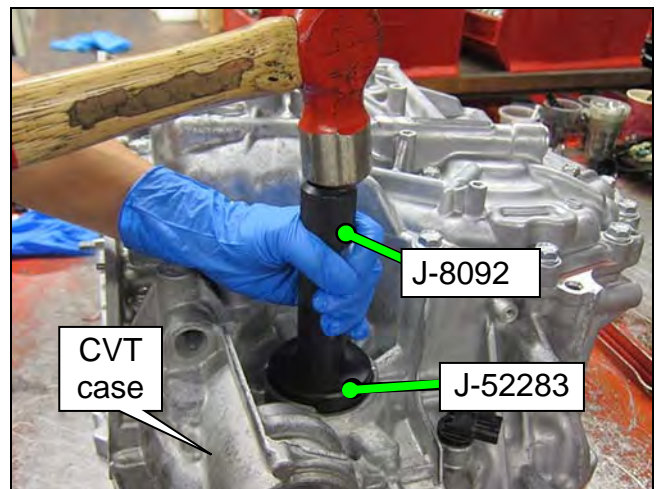

Figure 24F
19. Install the CVT case side axle seal (Figure 24F).